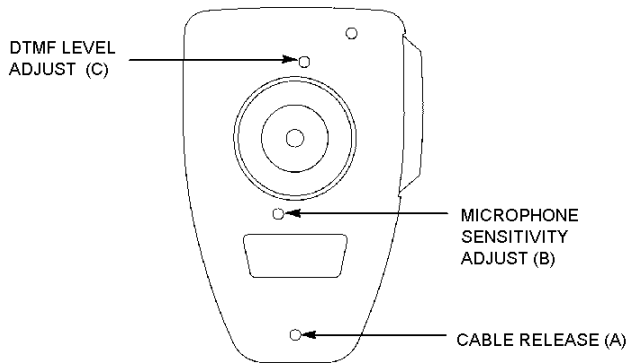

Figure 5 - Microphone Case Rear
The cable is attached to the microphone by inserting the modular telephone-type plug in the microphone jack until it locks. To remove the cable from the microphone, insert the small screwdriver supplied with the microphone in rear case hole "A" just above the cable jack (see Figure 5) to unlock the plug and withdraw the plug from the jack.
1. **MICROPHONE SENSITIVITY:** Press the push-to-talk button and speak normally into the microphone while observing transmitter modulation. Adjust the microphone sensitivity control (rear case hole "B" in Figure 5) and repeat the talk test as required.
2. **DTMF OUTPUT:** Do not press the push-to-talk button. Depress and hold down the "#" key for a continuous tone. Adjust the DTMF output control (rear case hole "C" in Figure 5) for 60% of rated system deviation.